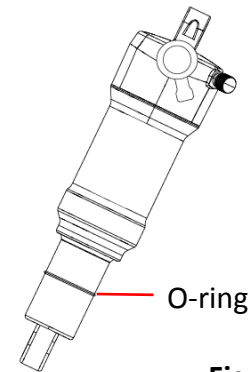

Fig. 2
3. Position your bicycle next to a wall so that you can sit on the bike with both feet on the pedals while steadying yourself with one arm. Gently sit on the saddle without bouncing. Dismount gently without bouncing and take note of how far the O-ring has moved down the shaft. Measure distance O-ring has moved (Fig. 2).